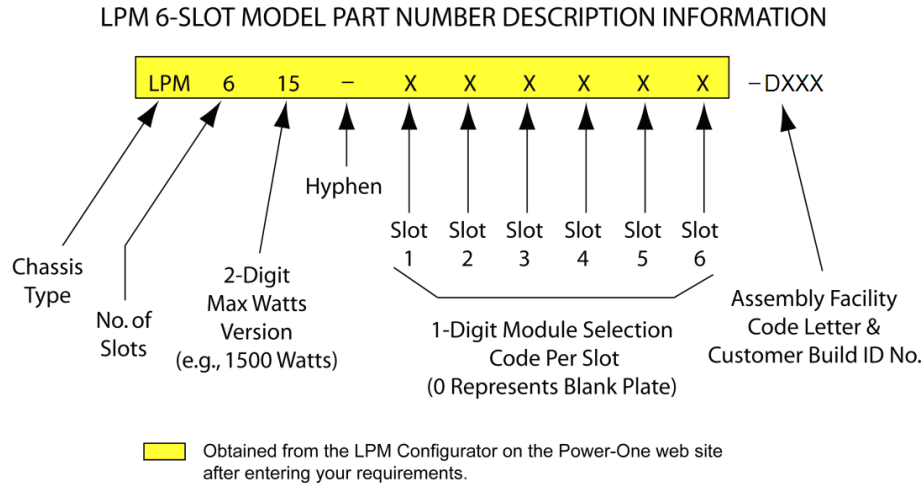

Figure 2. LPM 6-Slot Part Number Structure
NOTE 1: To determine your desired power supply's part number, please refer to *Figure 2* for a detailed part number description. Use the **LPM616 Product Configurator** located in the Modular Section on our website, or use our contacts page to locate a contact or distributor for further assistance.
- LPM616 Low Profile Modular 6-slot, 1600W, with single-phase AC input. (see Figure 2)